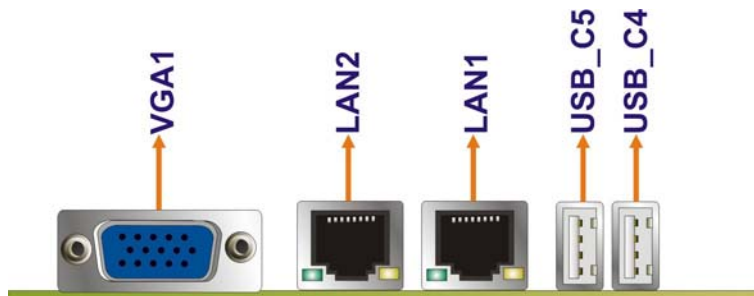

Figure 3-24: PCISA-945GSE External Peripheral Interface Connector
Figure 3-24 shows the PCISA-945GSE external peripheral interface connector (EPIC) panel. The PCISA-945GSE EPIC panel consists of the following:
CN Location: See Figure 3-24
- CN Location:** See Figure 3-24